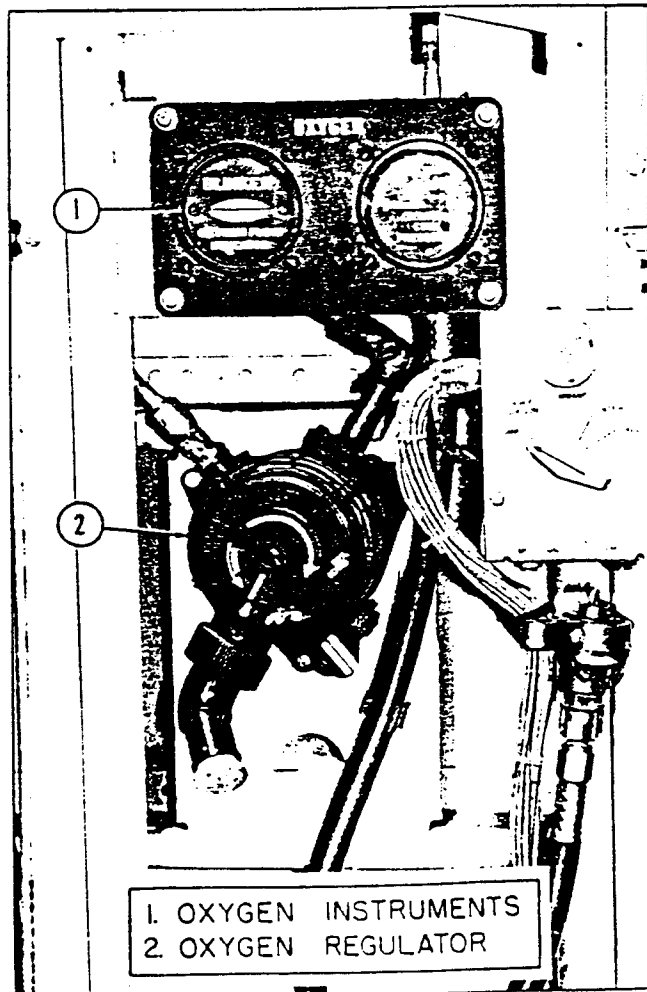

Figure 3. Oxygen Instruments
c. OXYGEN REGULATOR. (See Figure 3.)